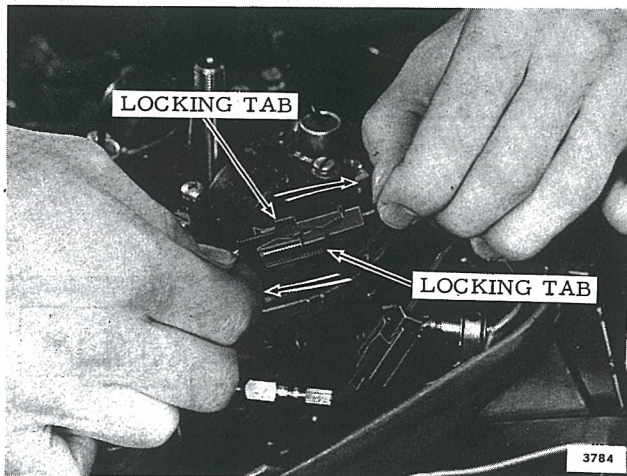

Figure 4-4. Disconnecting Packard Connectors
b. Disconnect stop switch leads. To accomplish this, lift up on the two Packard connector locking tabs and slide connectors apart. See Figure 4-4.